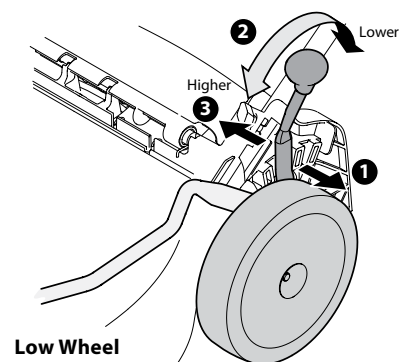
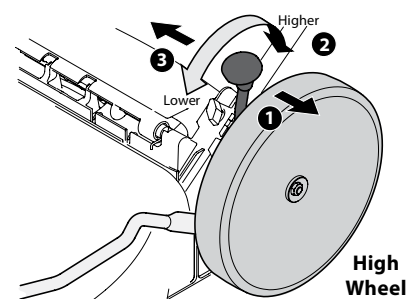

Figure 2-10
Figure 2-11
2. Slide lever to desired position for a change in cutting height. Refer to Figure 2-10 for low wheel and Figure 2-11 for high wheel.